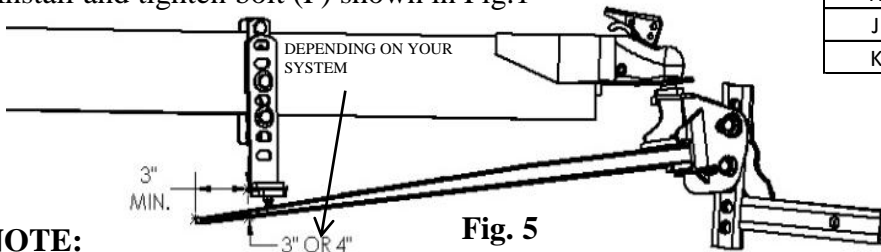

Fig. 5
- During ball mount adjustment, it may be necessary to raise or lower the L-bracket (L) to get the proper spring bar load if there is not enough head angle adjustment. If there are not enough washers to get the dimension shown in fig. 5, move the L-bracket (L) up 1 set of holes.
- If you have a 6" tall frame with a bottom mounted coupler (inverted coupler) it may be necessary to install brackets (V) and (W) upside down in order to get the L-bracket (L) mounted low enough. This will lower the L-bracket 1.75" Otherwise there may be too much spring bar pressure.
- Torque both 3/4" nuts (E) to 300 ft.*lbs. when the desired angle is achieved. If a large enough torque wrench is not available, torque nuts to 150 ft.*lbs. then tighten the nuts an additional 1/4 turn. Do not lubricate the threads.